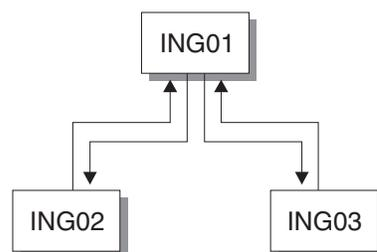

Figure 68. Automation Network Example for SA OS/390 Password Protection
The steps are described in more detail in this section, and reference the example automation network shown in Figure 68, which shows a focal point system connected to two target systems. All systems are named by their NetView domain IDs: ING01, ING02, and ING03.
1. Identify the gateway operator IDs that each system in your automation network needs. For example, referring to Figure 68 on page 221, systems ING02 and ING03 would both need a gateway operator ID (GATING01) to enable the logon from the outbound gateway operator on system ING01. System ING01 would need two inbound gateway operator IDs: one to enable the logon from system ING02, another to enable the logon from system ING03.
If your automation network shares a RACF or other SAF data set, you must define how the data set is to be shared. This applies only to systems that are connected to two or more other systems, which share the same RACF or other SAF data set. Use the customization dialog to specify the systems that share the data set and the system that owns the outbound gateway operator that connects to these systems. For example, if the automation network shown in Figure 68 on page 221 were sharing a RACF or other SAF password data set, a system programmer at system ING01 would use the customization dialog to make the following entries in the System Authorization Facility (SAF) Environment Definition panel as shown in Figure 69 on page 224.